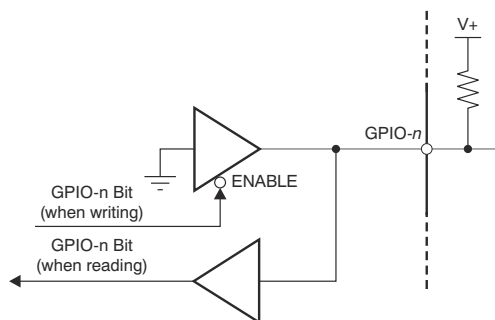

图 7-17. GPIO Pins
The device has eight GPIO pins. The GPIO-0, GPIO-1, GPIO-2 and GPIO-3 pins are dedicated to general, bidirectional, digital I/O signals. GPIO-4, GPIO-5, GPIO-6, and GPIO-7 are dual-function pins and can be programmed as either bidirectional digital I/O pins or remote temperature sensors D1 and D2. When D1 or D2 is disabled, the pins function as GPIOs. These pins can receive an input or produce an output. When the GPIO-*n* pin functions as an output, the pin has an open-drain and the status is determined by the corresponding GPIO-*n* bit of the GPIO register. The output state is high impedance when the GPIO-*n* bit is set to 1, and is logic low when the GPIO-*n* bit is cleared (0). A 10-k Ω pullup resistor is required when using the GPIO-*n* pin as an output; see Figure 7-17. Do not tie the dual-function pins GPIO-4, GPIO-5, GPIO-6, and GPIO-7 to a pullup voltage that exceeds the AV_{DD} supply. The dedicated GPIO-0, GPIO-1, GPIO-2, and GPIO-3 pins are only restricted by the absolute maximum voltage. To use the GPIO-*n* pin as an input, the corresponding GPIO-*n* bits in the GPIO register must be set to 1. When the GPIO-*n* pin functions as an input, the digital value on the pin is acquired by reading the corresponding GPIO-*n* bit. After a power-on reset or any forced hardware or software reset, all GPIO-*n* bits are set to 1, and the GPIO-*n* pin goes to a high-impedance state.